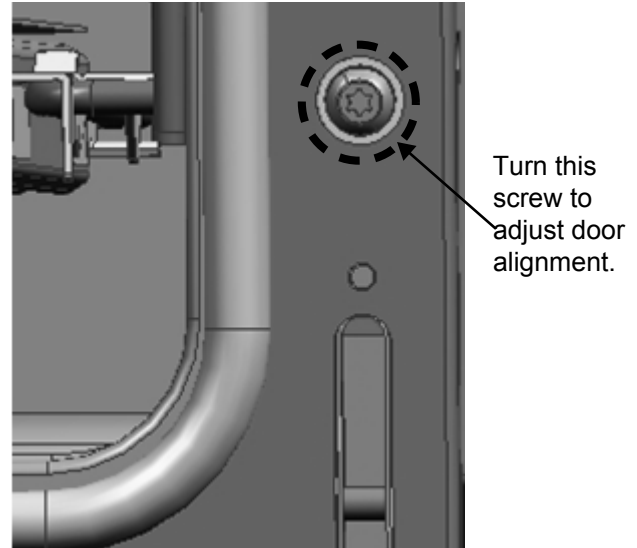

FIGURE 9: HINGE RECEIVER ADJUSTMENT SCREW
3. If door or handle appears slightly tilted, you may adjust the hinge receiver by rotating the large Torx-head screw located directly above the hinge receiver with a T-20 Torx driver. Turn adjustment screw until door is aligned (*Figure 9*).